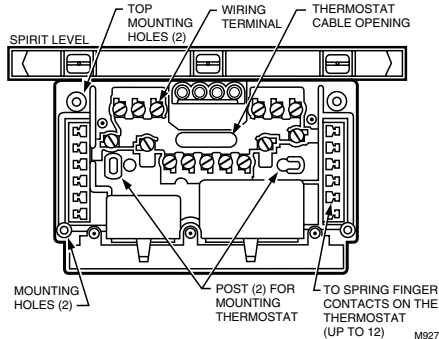

Fig. 3. Subbase components and leveling procedure.
3. Pull wires through the cover plate (if used) and subbase cable opening. See Fig. 3.
5. Level the subbase by using a spirit level. Firmly tighten subbase mounting screws. See Fig. 3. The subbase mounting holes provide for minor out-of-level adjustments.